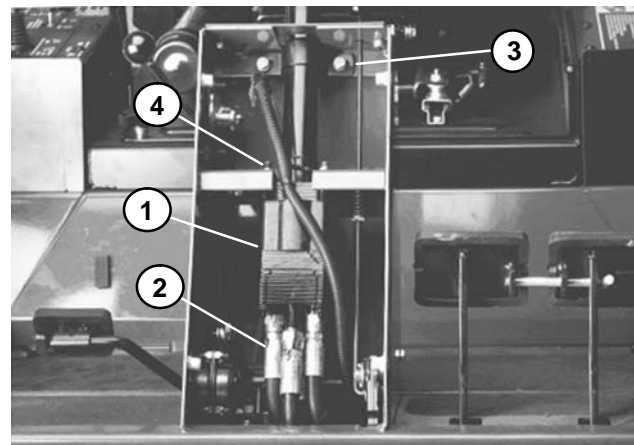

Figure 22
4. Clean outside of the steering valve and the area around the hydraulic fittings. Disconnect hydraulic lines from steering valve (Fig. 22). Put caps or plugs on all fittings and lines to prevent contamination.